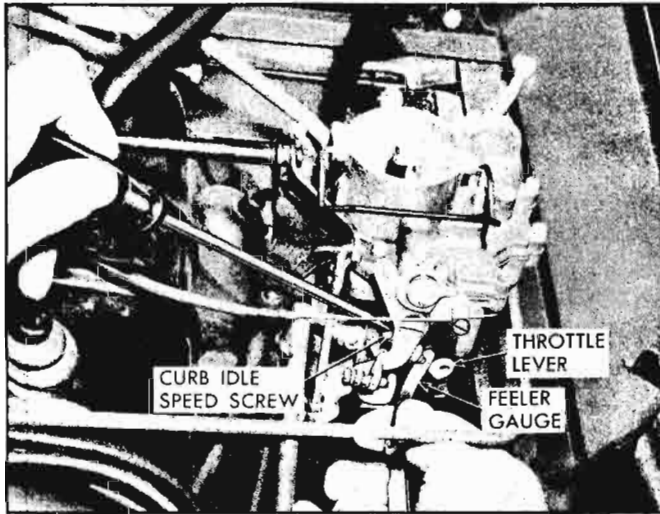

Fig. 9-9—Curb Idle Speed Screw Adjustment
- b. **Curb Idle Speed**—Place a .003" feeler gauge between the curb idle speed screw and the carburetor throttle shaft lever (fig. 9-9). Turn the screw until it just contacts the gauge, then remove the gauge and turn the screw 1½ more turns to set the throttle valve.